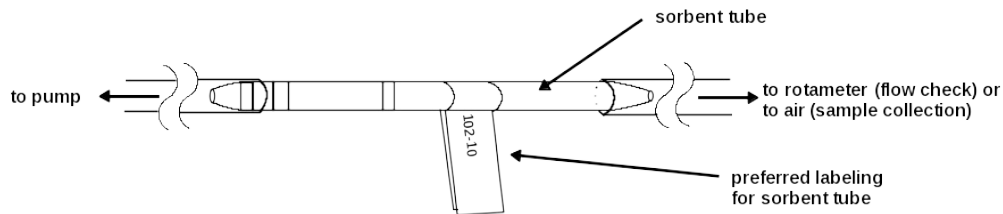

Figure T1-2. Diagram showing orientation of sorbent tube and placement of ID label.
NOTE T1-3. Direction of air flow through sorbent tubes. The arrow on the sorbent tubing MUST go toward the pump. If no arrow is shown on tube, examine the dark colored media in the tube. There will be a small section of media closer to one end that is capped by narrow ribbons of packing material. It is this section that must point toward the pump. This section is used to capture any breakthrough of formaldehyde that slips past the media before this smaller section. This section, that must point toward the pump, also happens to be the end of the tube where all the media is located (the other end is empty as diagrammed in Figure T1-2).
4.6 Label, record and store the sample. Get the sample ID label from subkit T1. Wrap the label around the opened sorbent tube as shown in Figure T1-2. Place a replicate ID label on the field blank row of *Formaldehyde in Air Sample Collection Log*. Temporarily store this sample in subkit T1 until it can be transferred back into Box 3 inside Kit (C) in the auto for transport back to the local base of operations where they can be placed into the freezer (See Note I3-4).
- 6.3 Label, record and store the sample.** Get the sample ID label from subkit T1. Wrap the label around the opened sorbent tube as shown in Figure T1-2. Place a replicate ID label on the regular sample row of *Formaldehyde in Air Sample Collection Log*. Temporarily store this sample in the T1 subkit bag until it can be placed into Box 3 inside shipper Kit (C) used for cold transport back to the local base of operations where they can be placed into the freezer.
- (1) Obtain a new sorbent tube with 2 red caps (loose).
- (2) Open a new sorbent tube. Open both ends of the tube using the Procedure to Open Sorbent Tubes.
- (3) Place a "Field Calibration Check Only - XX" label on tube (See Note T1-5). Wrap the label around the opened sorbent tube as shown in Figure T1-2. Be sure to place the label so that it is at least 1 " from the ends to allow room for the red caps which get placed on the opened ends after sample collection.